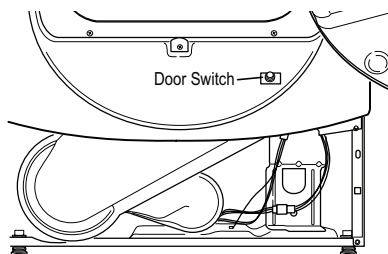

Figure 13. Door switch location.
- Check that the wires between the door switch and machine control electronics are connected. See Figure 13 for switch location and see Accessing and Removing the Electronic Assemblies.